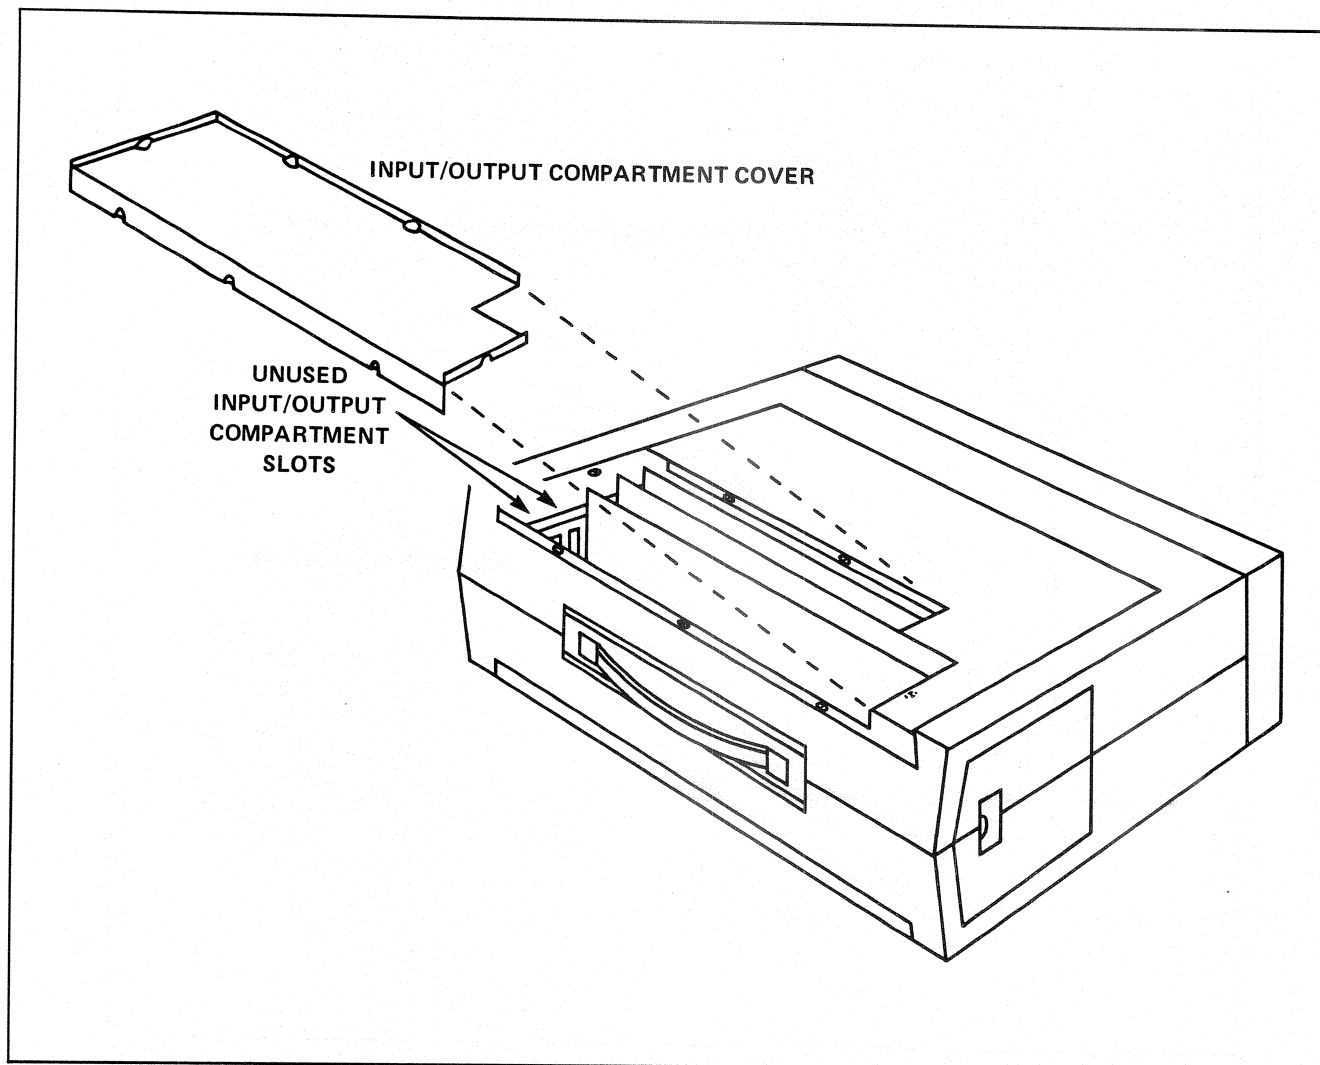

Figure D-3. Input/Output Compartment Cover
**Step 5** – Without removing them, loosen the 6 screws securing the input/output compartment cover to allow its removal. (See Figure D-3.)